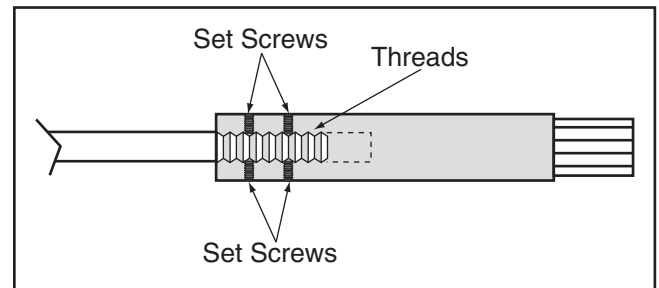

Figure 9. Example of new drawbar.
7. Thread the new drawbar shaft into the bottom of the new bolt head, as shown in **Figure 9**.
Note: *We recommend the addition of four M5-.8 x 10 set screws applied through the bolt head to further secure the drawbar shaft, as shown in **Figure 9**.*